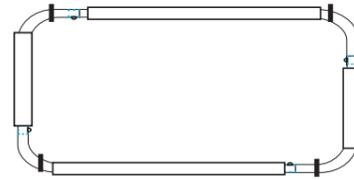

Figure 4
- 2) Repeat with the remaining "J" rods to form a rectangle (figure 4)